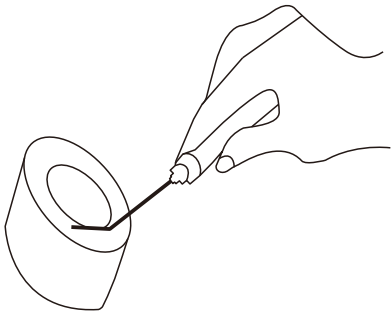

图 1-2
3. Incorrect hand-held sensor method presses the top of the sensor hard on the surface of the object under test (as shown in Figure 1-2), which may easily damage the sensor.